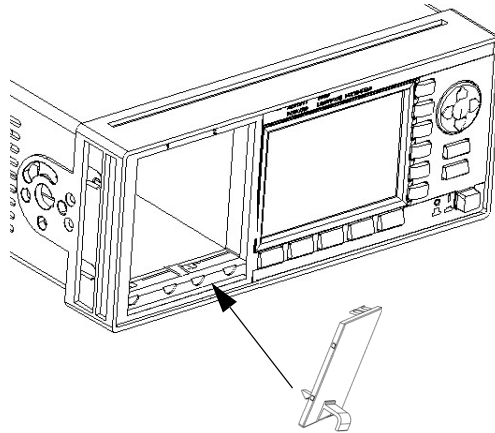

Figure 210 Fitting a Blind Panel
- 1 Position the blind panel as shown in Figure 210 on page -334. Position the end closest to the handle against the bottom edge of the slot.